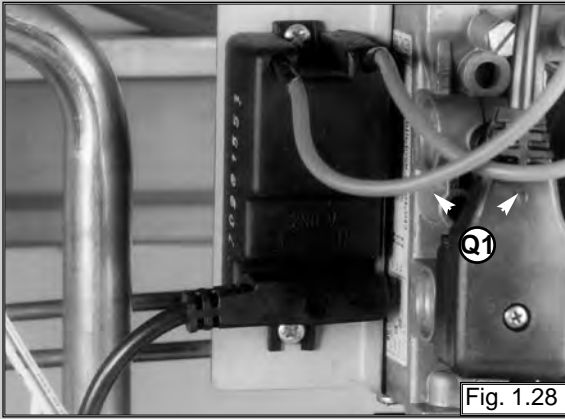

Fig. 1.28
1. Disconnect ignition leads "Q1" by pulling upwards (see fig. 1.28);